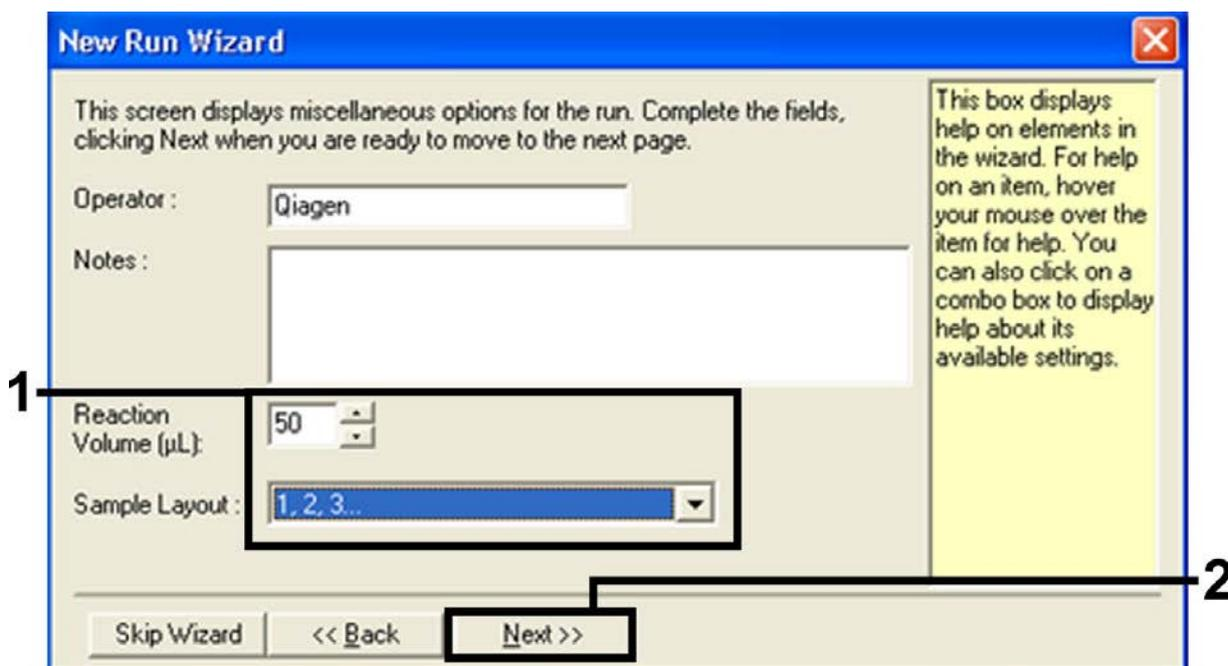

Figure 4. Setting the general assay parameters.
7. Select 50 for the PCR reaction volume and click "Next" (Figure 4).